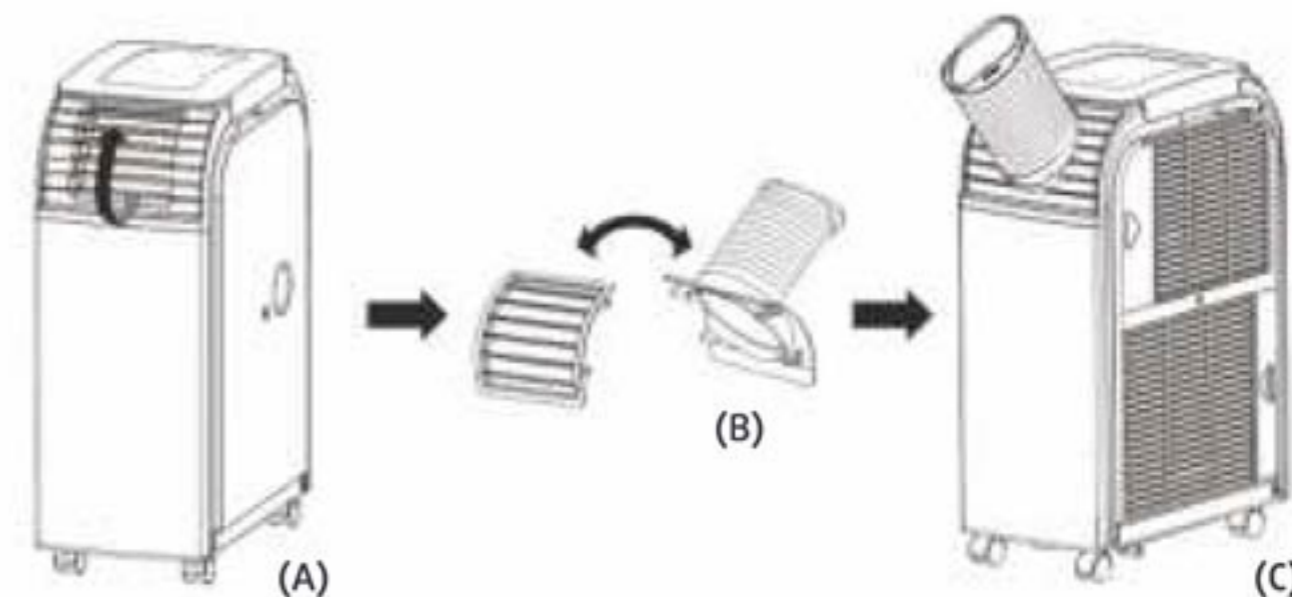

Fig. 6
#### Installation of the hose in cooling / heating modes (Fig. 6)
Disconnect the removable grill and the air outlet hose, as shown by the arrow in Fig. 6 – A, then interchange their position (B) and connect to the unit. Final structure is shown in Fig.6 – C.